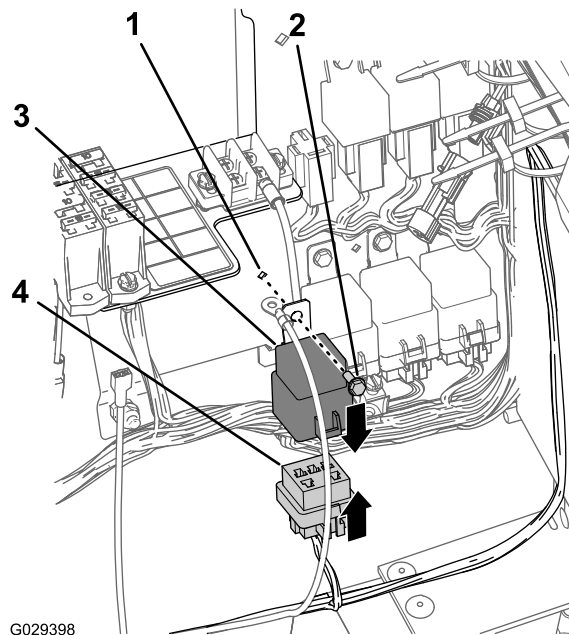

Figure 18
- At the 197 cm (77-1/2 inch)—engine-compartment branch of the wiring harness, align the relay with the 5-socket connect of the wiring harness for the finishing kit (Figure 18).
- Insert the pins of the relay into the sockets of the connector (Figure 18).
- Align the hole in the mounting tab of the relay with the hole in the wiring panel (Figure 18).
- Secure the relay to the panel (Figure 18) with the flange-head bolt (#10-24 x 1/2 inch).